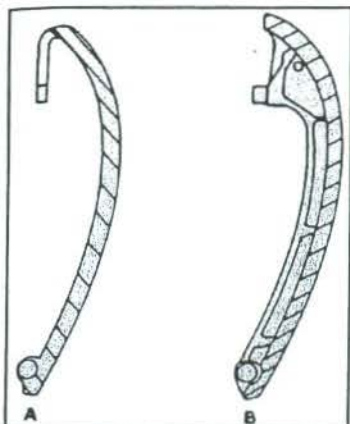
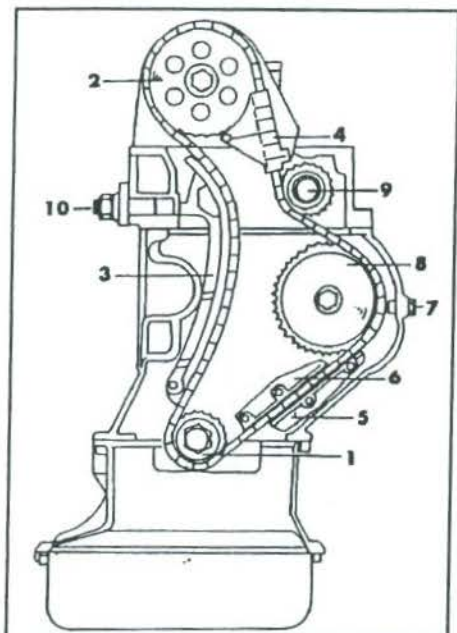
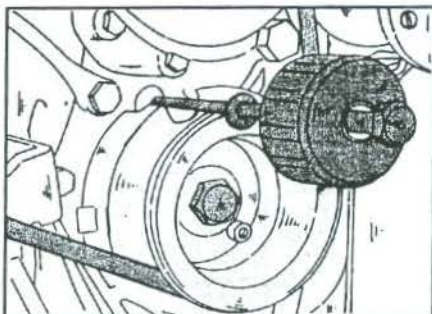

Fig. 9.21 – View of the tensioning rail. "A" shows the earlier version, "B" the later version.
Fig. 9.22 - View of the timing mechanism.
Fig. 9.24 – Removal of the bearing bolt from the tensioning rail, using an impact hammer and a threaded adaptor.
- Depending on the shape of the tensioning rail, treat the chain tensioner as follows: If the tensioning rail has the shape "A" in Fig. 9.21, remove the chain tensioner completely; if the tensioning rail has the shape "B", slacken the thrust bolt of the chain tensioner. Section 9.2.2 gives further details of these operations.
Refit the chain tensioner as follows. Fig. 9.22 shows where the tensioner is located, together with other parts of the timing mechanism:
Fig. 9.22 shows the Arrangement of the timing chain. The following operations can be carried out by referring to this illustration. Note the following points before commencing any operation:
The location of the tensioning rail can be taken from Fig. 9.22. As already mentioned, one of two types of tensioning rails can be fitted. The second tensioning rail "B" in Fig. 9.21 can be used in place of the older type, if the rail is replaced. The new tensioning rails are marked to prevent interchanging them between a 4-cylinder and 5-cylinder engine. The rail for the engine fitted is not drilled at the top, as can be seen in Fig. 9.21, view "B". It is also wider.
- If the engine is fitted with the later-type tensioning rail (view "B", Fig. 9.21), push back the thrust bolt of the chain tensioner.
- Fit the slide hammer with a suitable threaded adaptor into the end of the bearing bolt and withdraw the bearing bolt by hitting the weight of the slide hammer against its stop (Fig. 9.24). Remove the tensioning rail towards the top.
The position of the slide rails is shown in Fig. 9.22. To remove a slide rail, a slide hammer with a suitable, threaded adaptor is required, to remove the bearing bolts. The bolt is screwed into the end of the bearing bolt and the impact hammer (slide hammer) attached to the end of the bolt (Fig. 9.24). Provided that these tools can be obtained, the rails can be removed as described below. Remove the slide rail (4) in Fig. 9.22 as follows:
withdraw the slide rail towards the top, after the bearing bolt, has once more been withdrawn with the slide hammer, similar as shown in Fig. 9.24.
Replace the slide rail (6) in Fig. 9.22 as follows:
Replace the slide rail (5) in Fig. 9.22 as follows: